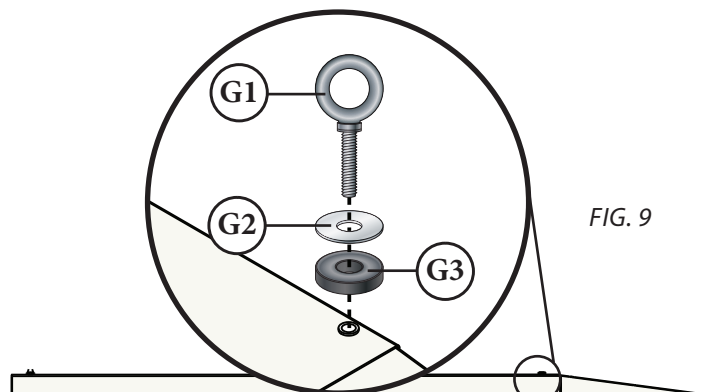

FIG. 9
- 9** Take each of the four Eyebolts (G1), Flat Washers (G2), Rubber Washers (G3), and thread them into the four holes on top of the Plenum Assembly (F) as shown in [FIG. 9].